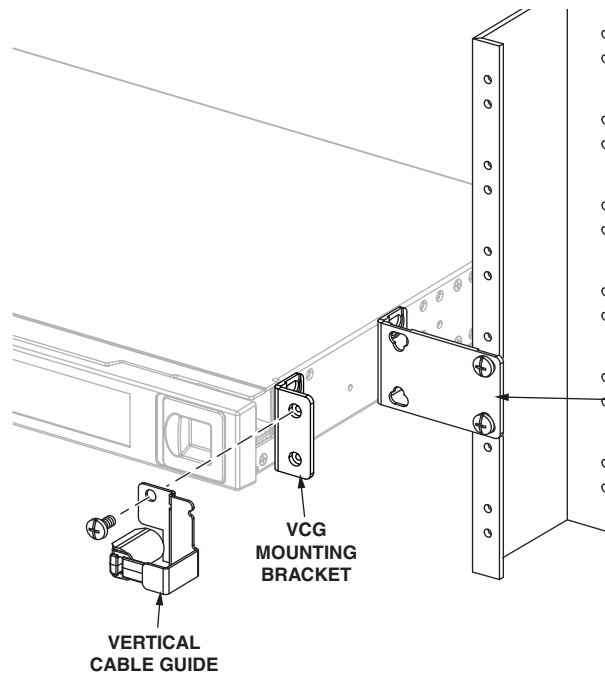

Figure 8. Installing VCGs, 3.1, 5, or 6.5-inch recess (23-Inch Rack Mount)
2. If rack width is 23 inches (58.42 cm) and is recessed mounted with cable routed down, mount the VCGs on the FMT using the VCG mounting bracket. Secure VCG and VCG mounting bracket to FMT using the holes located at the front of the FMT. Refer to Figure 8.